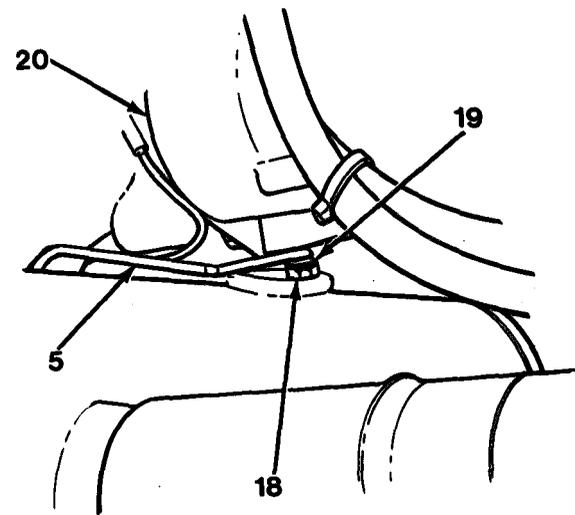

Figure 8-4
- Remove two capscrews (18), washers (19) and bracket (5) from side of flywheel housing (20, Figure 8-4).
- Install bracket (5) to side of flywheel housing (20) with two washers (19) and capscrews (18, Figure 8-4).